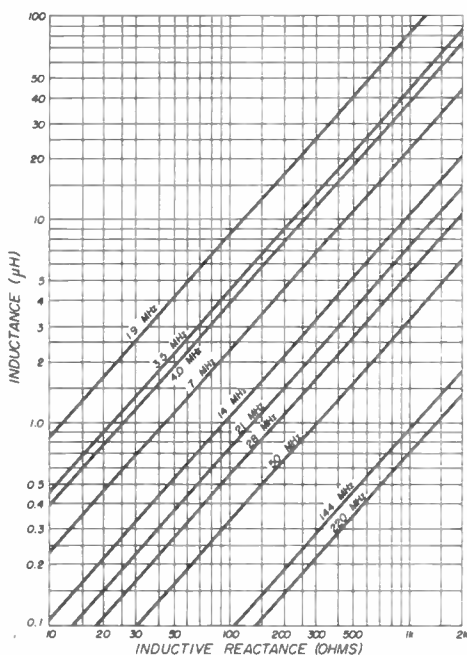

fig. 20. Reactance of inductors commonly used in the amateur bands from 1.9 to 220 MHz.
8. Determine the capacitance and inductance values for the pi network. Fig. 20 and 21 show reactance values of inductors and capacitors commonly used in rf circuits in the hf amateur bands. For the reactances determined for the 3-400Z tubes, the circuit components may easily be determined for each amateur band. In the case of the 20-meter band, for example, the values are: tuning capacitor (C1) = 100 ohms = 113 pF; loading capacitor (C2) = 20 ohms = 565 pF; pi network coil (L1) = 120 ohms = 1.36 μH.
9. Determine the values of the capacitance and inductance for the components of the pi-L network. Fig. 20 and 21 show reactance values for inductors and capacitors in the range commonly used for rf circuitry in the high-frequency amateur bands. For the reactance values determined for the 3-1000Z tube, the circuit components may be easily determined for each amateur band. In the case of the 80-meter band, for example, the values are: tuning capacitor (C1) = 150 ohms = 275 pF; loading capacitor (C2) = 47 ohms = 900 pF; pi network coil (L1) = 215 ohms = 9 μH; L network coil (L2) = 140 ohms = 6.5 μH.